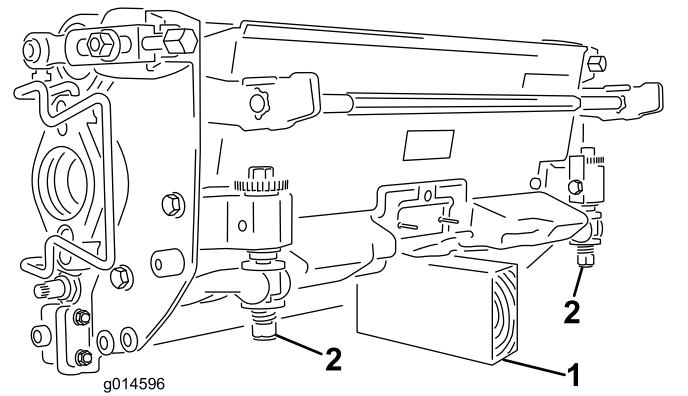

Figure 49
**Important:** Whenever you need to tip the cutting unit, prop up the rear of the cutting unit to ensure that the nuts on the bedbar adjusting screws are not resting on the work surface (Figure 49).